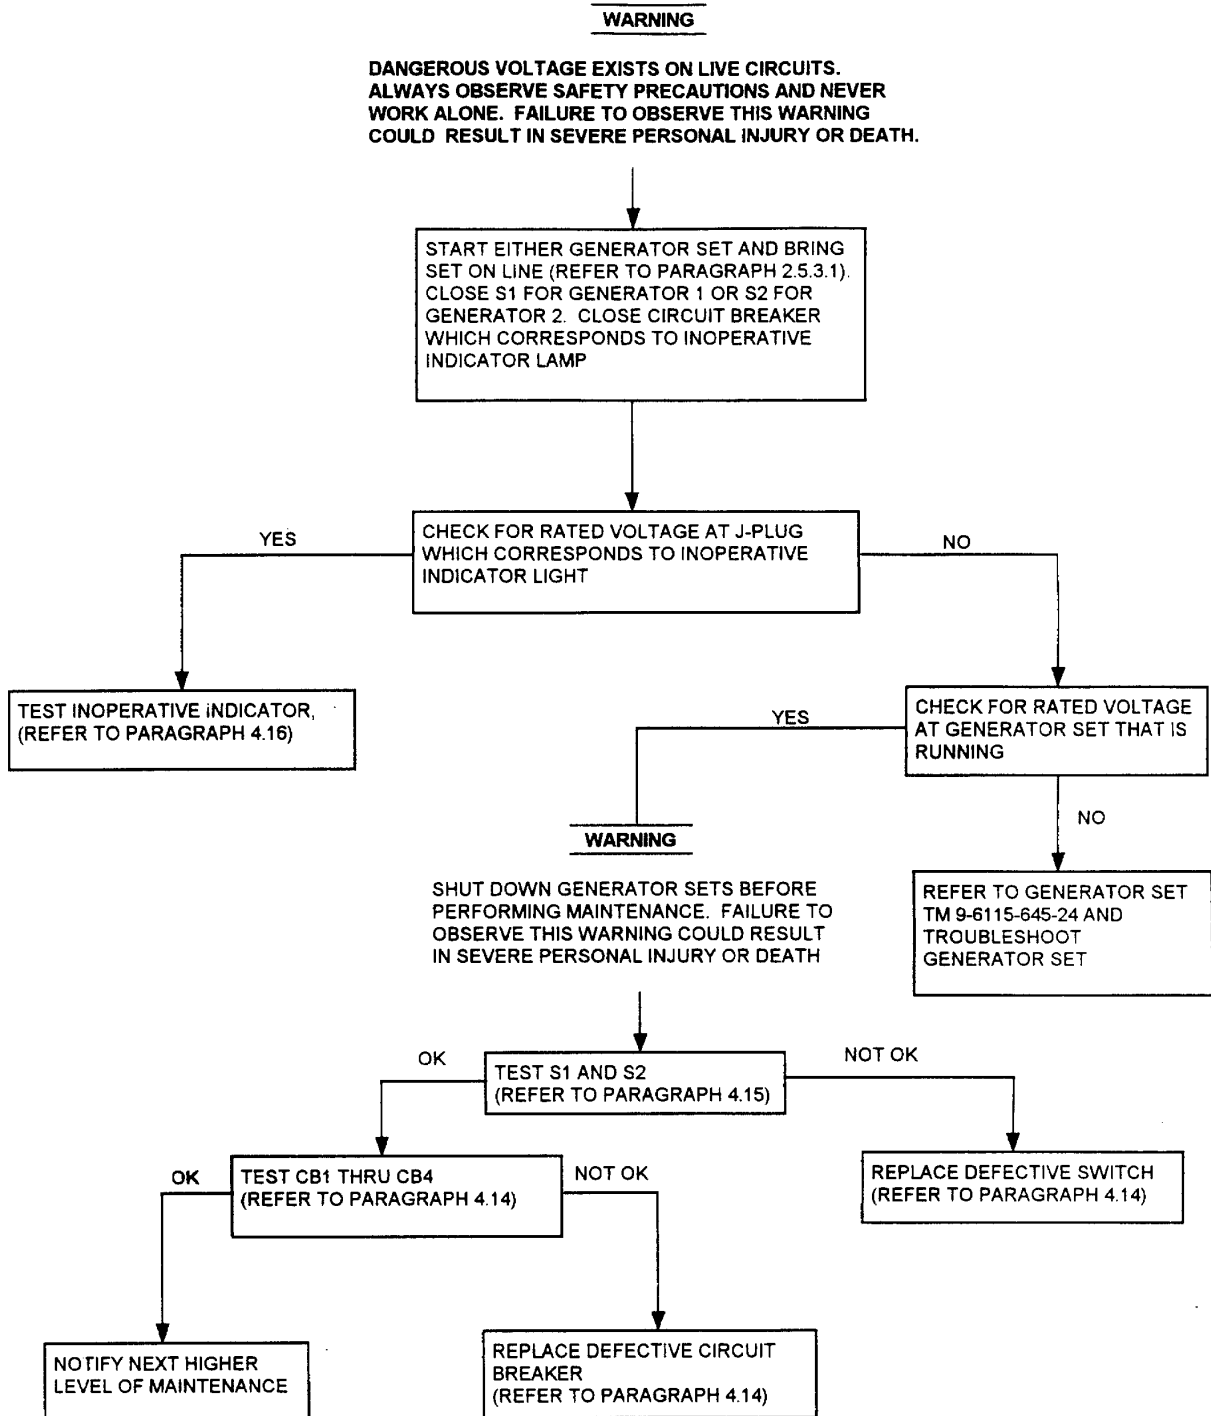

Figure 4-3. Output Indicator Lamp (DS3 thru DS6) Fails to light when Circuit Breaker is placed in the ON position.
4.8.4. Special Instructions. Preventive maintenance is not limited to performing the checks and services listed in the PMCS table. Refer to figure 4-3 for PMCS routing. Covering unused receptacles, stowing unused accessories, and other routine procedures such as equipment inventory, cleaning components, and touch-up painting are not listed in the table. These are things you should do any time you see that they need to be done. If a routine check is listed in the PMCS table, it is because experience has shown that problems may occur with this item. Take along tools and cleaning cloths needed to perform the required checks and services.
Output Indicator Lamp (DS3 thru DS6) fails to light when circuit breaker is placed in the ON position	Figure 4-3